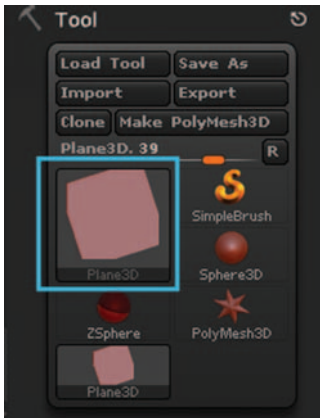

Figure 11.10 Plane3D object visible in the Tool menu.
- the Plane3D object. Note that the Plane3D thumbnail now appears in the Tool menu at the right of the screen. Figure 11.10 shows the Tool menu with the Plane3D object visible.